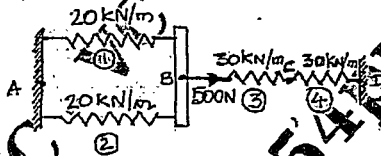

Fig. Q2 (b)
- b. A system of springs is subjected to a force of 500 N as shown in Fig. Q2 (b). Determine the forces at points A and D, and displacement at points B and C. Apply the principle of minimum potential energy. (10 Marks)